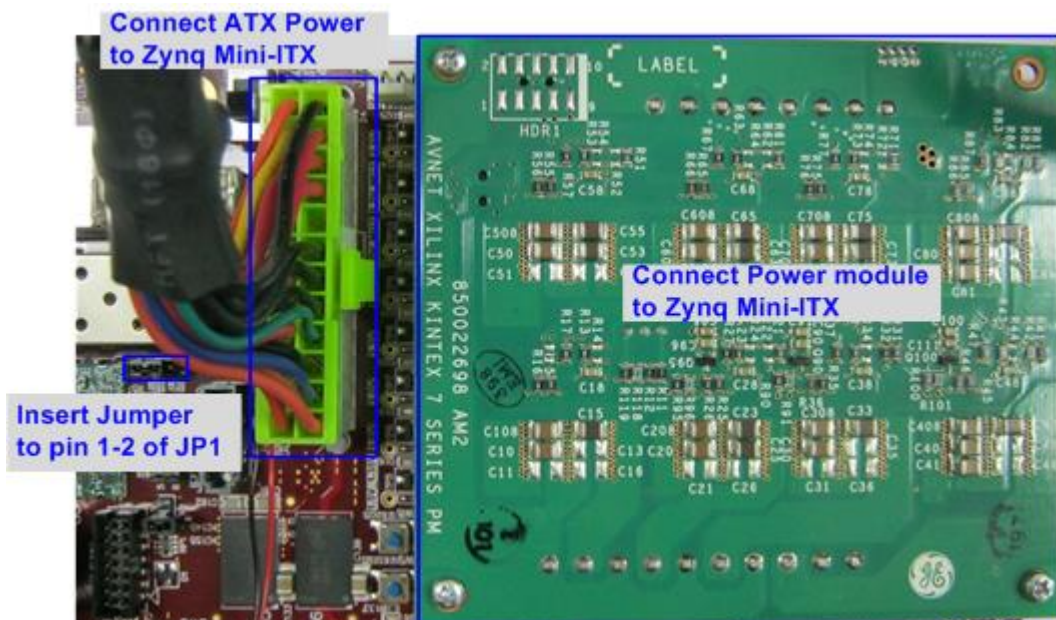

Figure 2-5 The power module installed onto the board
- ii. As shown in Figure 2-5, install a jumper on JP1 pins 1-2 to enable JTAG chain.